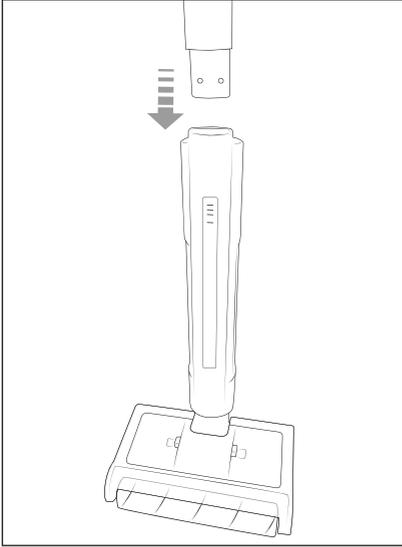

Fig. 1
- ◆ Push the handle **1** onto the appliance until it clicks into place (see Fig. 1).